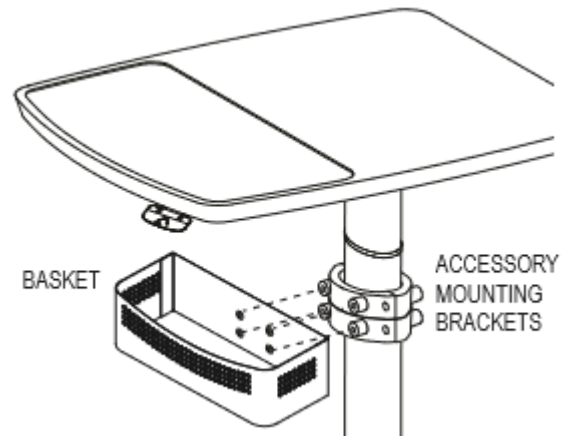

Figure 1. The accessory mounting brackets aligned on the column with the HB.
(2) Sets of Accessory Mounting Brackets
- 1** Measuring 3" down from the top of the column, attach (1) set of the accessory mounting brackets to the column using (2) 10-24 x 1" Phillips pan head screws. Directly below the first set of accessory mount brackets, attach the second set of accessory mounting brackets to the column.
- 2** Align the 4 holes located inside the back wall of the HB with the 4 holes on the accessory mounting brackets. Insert and tighten the (4) 10-24 x 7/8" Phillips pan head screws into the accessory mounting brackets (figure 1).